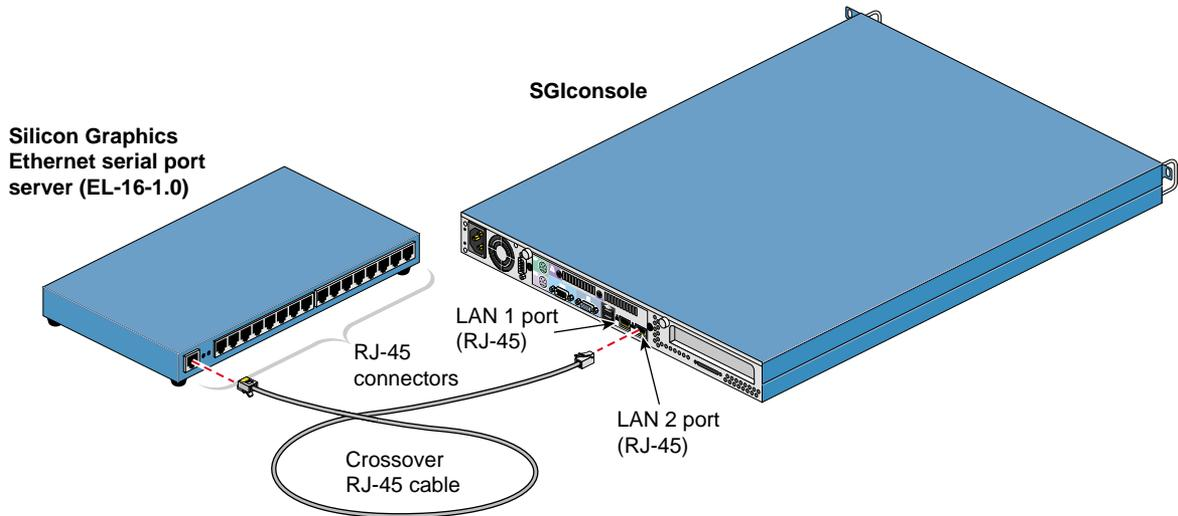

Figure 2-23 Connecting SGIconsole to the Silicon Graphics EL Serial Port Server
4. If you have not already done so, connect one end of the crossover RJ-45 Ethernet cable to the **LAN 2** port RJ-45 jack on your SGIconsole, and connect the other end to the leftmost RJ-45 jack on the Silicon Graphics EL serial port server. See Figure 2-23.